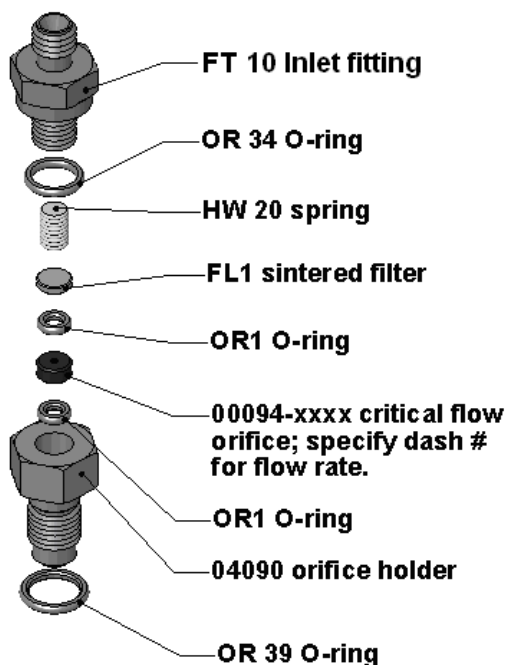

Figure 9-6: Critical Flow Orifice Assembly
There are several critical flow orifices installed in the TML41M/H, Figure 9-6 shows one of the two most important orifice assemblies, located on the reaction cell. Refer to Section 10.3.3 for a detailed description on functionality and locations. Despite the fact that these flow restrictors are protected by sintered stainless steel filters, they can, on occasion, clog up, particularly if the instrument is operated without sample filter or in an environment with very fine, sub-micron particle-size dust.
4. For orifices in the vacuum manifold, the assembly is similar to the one shown in Figure 9-6, but without the orifice holder, part number 04090, and bottom O-ring OR34 a NPT fitting is substituted for the FT 10 fitting. After taking off the connecting tube, unscrew the NPT fitting.
7. Re-assemble the flow control assembly with new the parts (see Appendix B for part number or replacement kit) as shown in Figure 9-6 and re-connect them to the reaction cell manifold or the vacuum manifold.